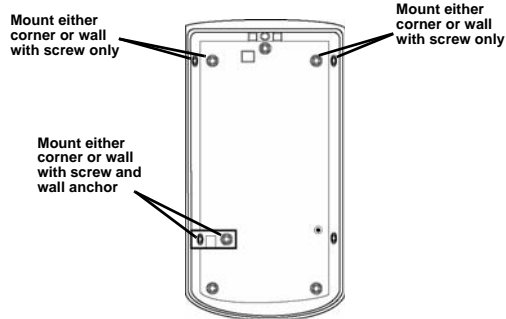

Figure 3 EE1261 mounting back plate
a. If using the wall tamper function for increased security, mount the housing back plate per Figure 3, ensuring the tamper switch is depressed..